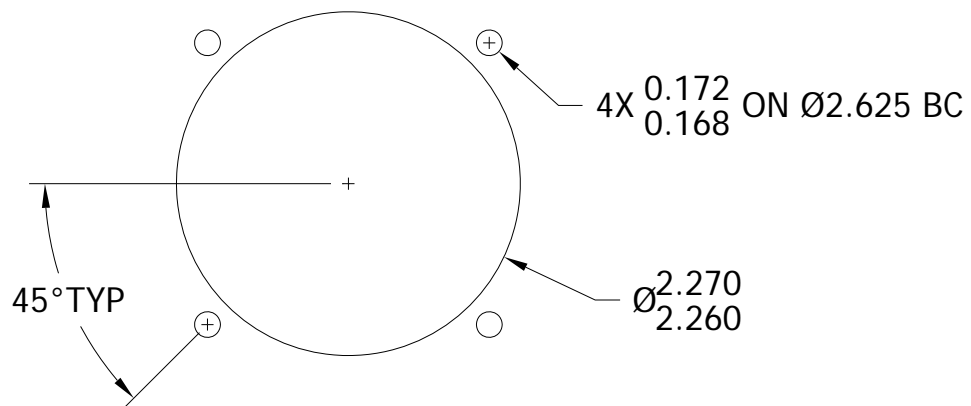

FIGURE 3.2
- A. Ensure the available instrument panel cutout meets the requirements of the indicator. See Fig 3.2 for details.